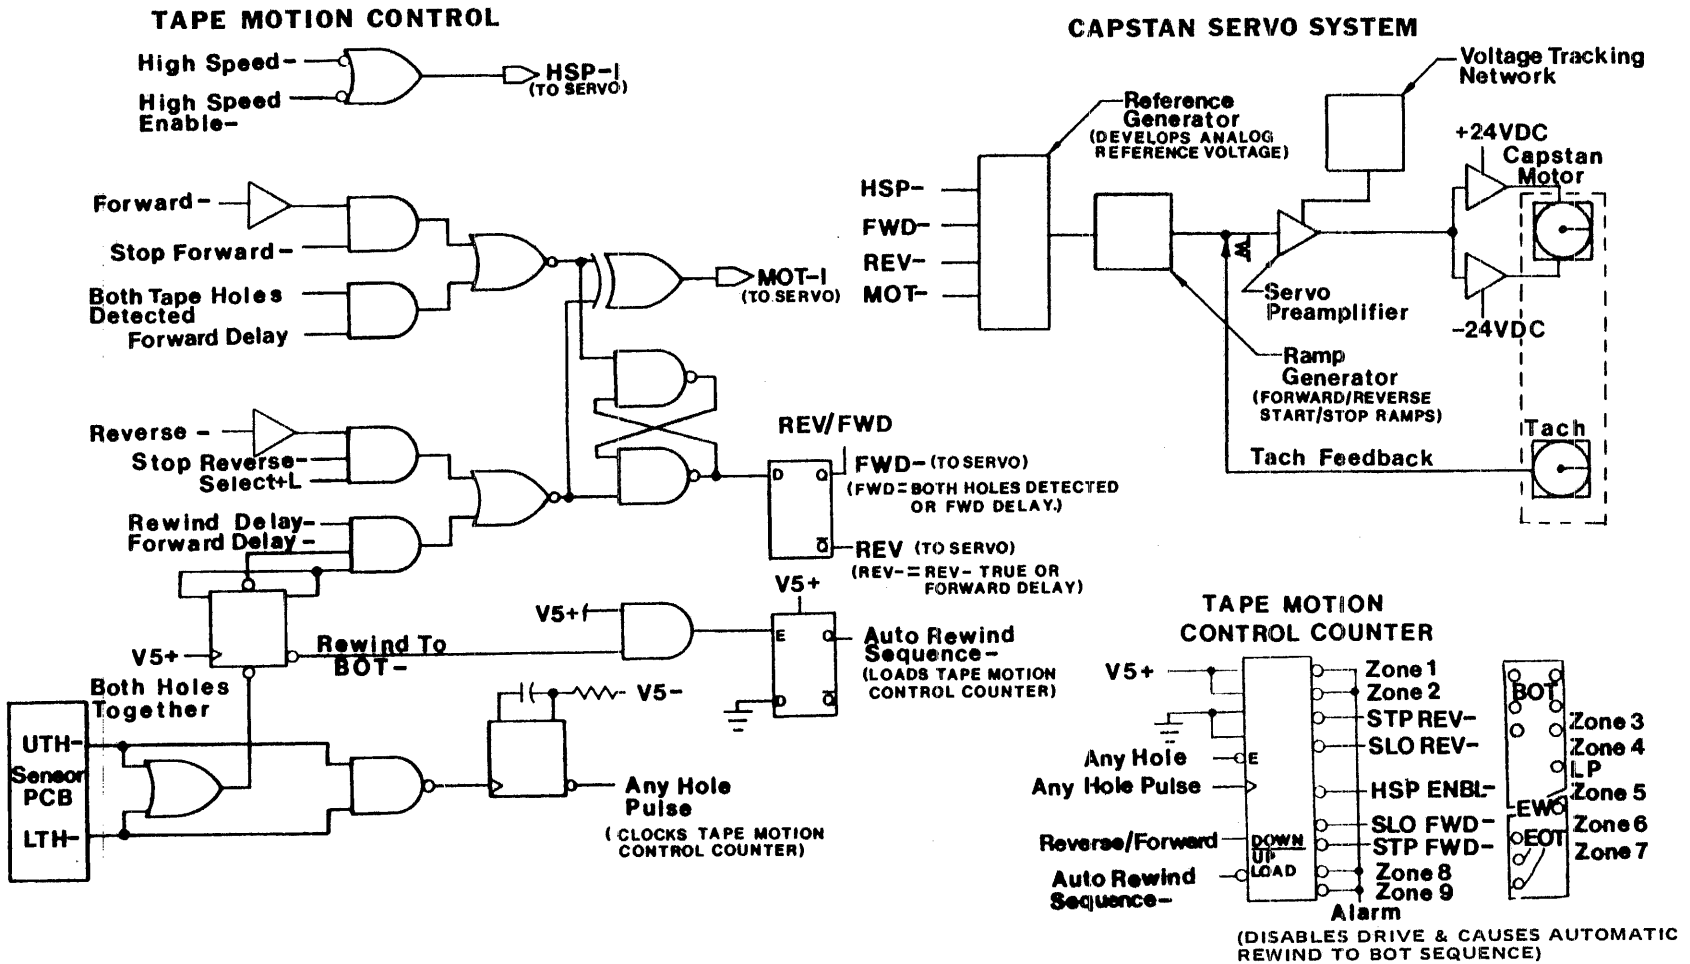

FIGURE 4-3. TAPE MOTION CONTROL
(Refer to Figures 4-3; 4-4) With the cartridge inserted, a lamp within the sensor mechanism will illuminate either or both the top and bottom hole photosensors on the Sensor Board whenever a tape position hole is present. The Sensor Board outputs Upper and Lower Tape Hole true signals which are passed directly to the controller after gating with drive select in drives without Control Boards or to the Control Boards of units employing same.
4.4.2 Servo Operation (Refer to Figure 4-3)